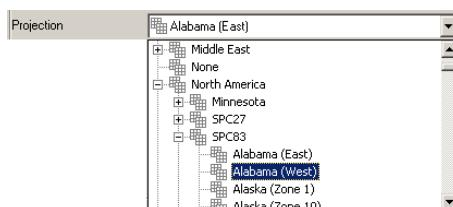

Figure 3-31. Projection List
- the Projection type (Figure 3-31).